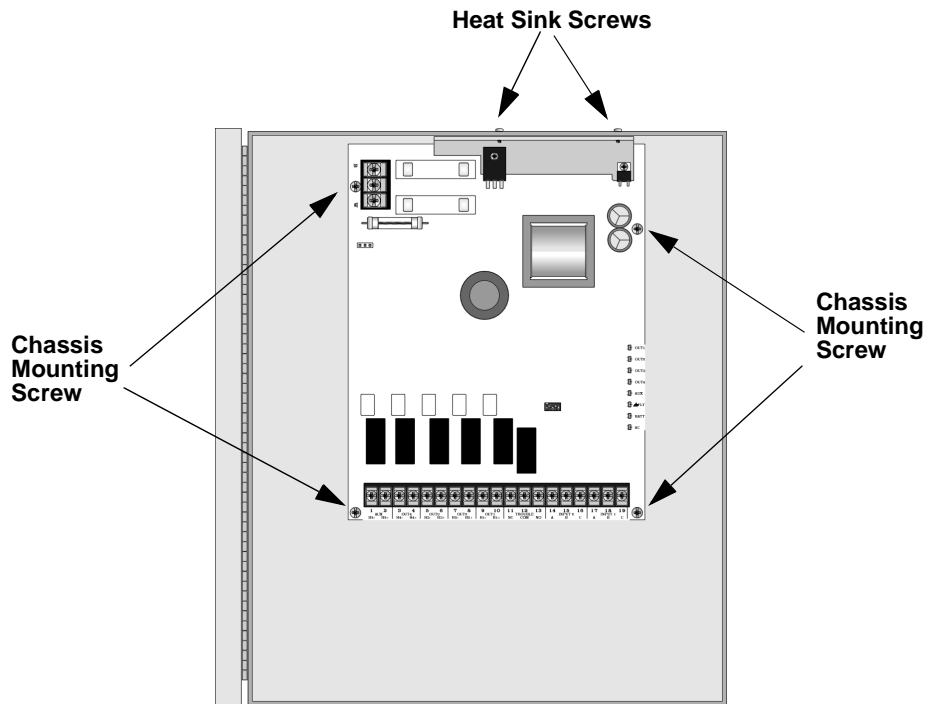

Figure 7-1 Mounting Screw Locations
1. Remove the two heat sink screws. The heat sink screws are located on the top of the cabinet. See Figure 7-1.
2. Remove the four chassis mounting screws. See Figure 7-1 for chassis screw locations.
1. Align the control panel with the chassis mounting stand-offs. See Figure 7-1.
2. Insert the four chassis mounting screws (see Figure 7-1). Do not over tighten the chassis mounting screws.
3. Insert the two heat sink screws (see Figure 7-1). Do not over tighten the heat sink screws.